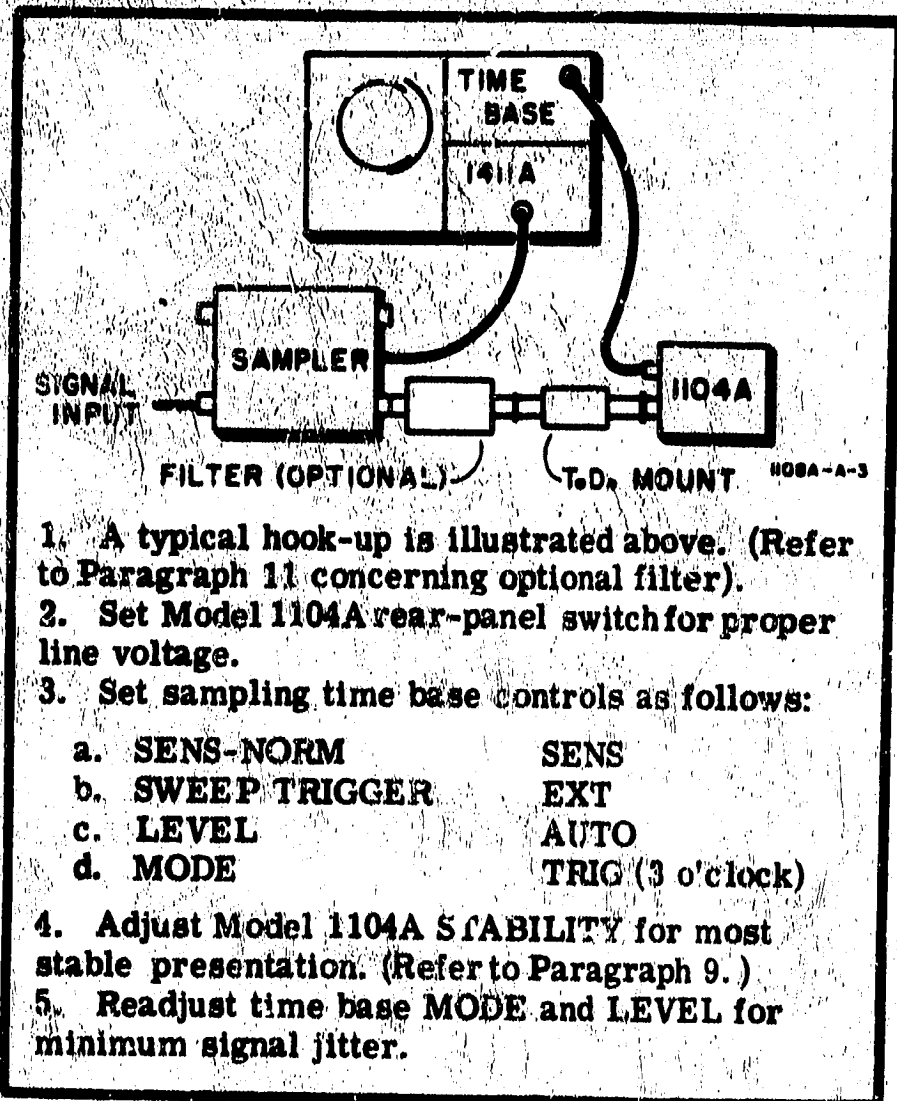
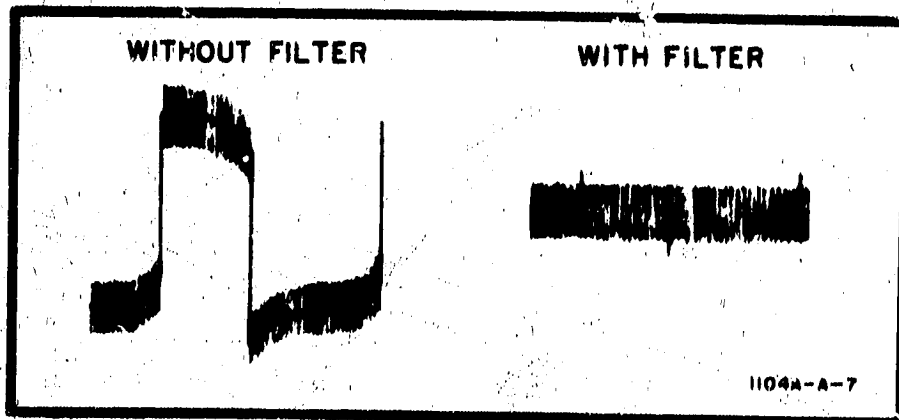

Figure 2. Typical Operation
Figure 4. Display with Slow Sweep
8. A typical operating setup is illustrated in Figure 2, which also gives a step-by-step operating procedure. Avoid the use of cables between the Model 1104A, the T. D. Mount and the sampler. The T. D. Mount input connector will mate directly with the sampler output connector. If a filter is desired, use proper adapter if required. Keep all connections secure since loose fitting connections can cause undesirable reflections, degrading the signal. Connect the Model 1104A TRIGGER OUTPUT to the time base input.
11. If the triggering signal is also the vertical (as in Figure 2) a small part of the tunnel-diode waveform will be coupled to the vertical amplifier. This signal appears as a positive pulse approximately 250 millivolts in amplitude. See Figure 4. To reduce these pulses to spikes of a smaller amplitude, use a high-pass or band-pass filter such as the HP 362 or 8430 series filters.